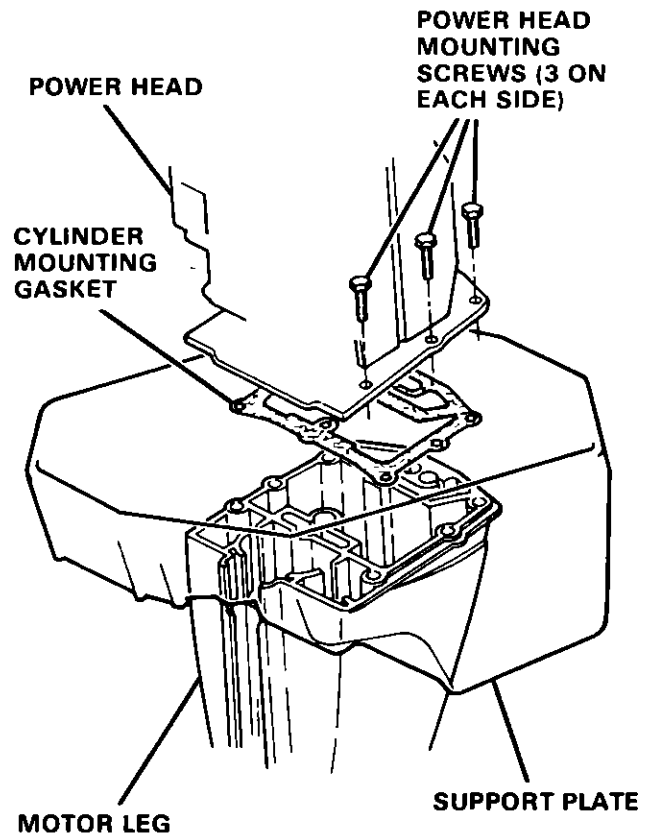

Figure 11. Removing Power Head from Support Plate.
8 Remove six (6) hex screws at base of cylinder and pull power head from support plate Figure 11